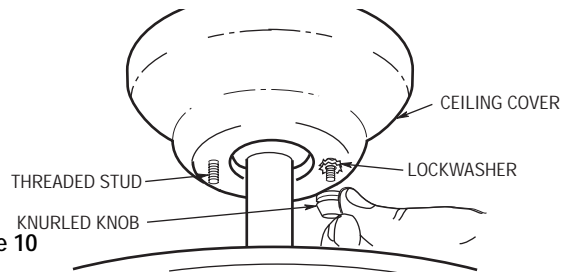

Figure 10
4. Lift the ceiling cover up to the threaded studs and turn until studs protrude through the holes in the ceiling cover (Figure 10).
5. Secure the ceiling cover in place by sliding lockwashers over the threaded studs and installing the two knurled knobs (supplied). (Figure 10.) Tighten the knurled knobs securely until the ceiling cover fits snugly against the ceiling and the hole in the ceiling cover is clear of the downrod. Your fan is now wired to be turned on and off from the fan switch.